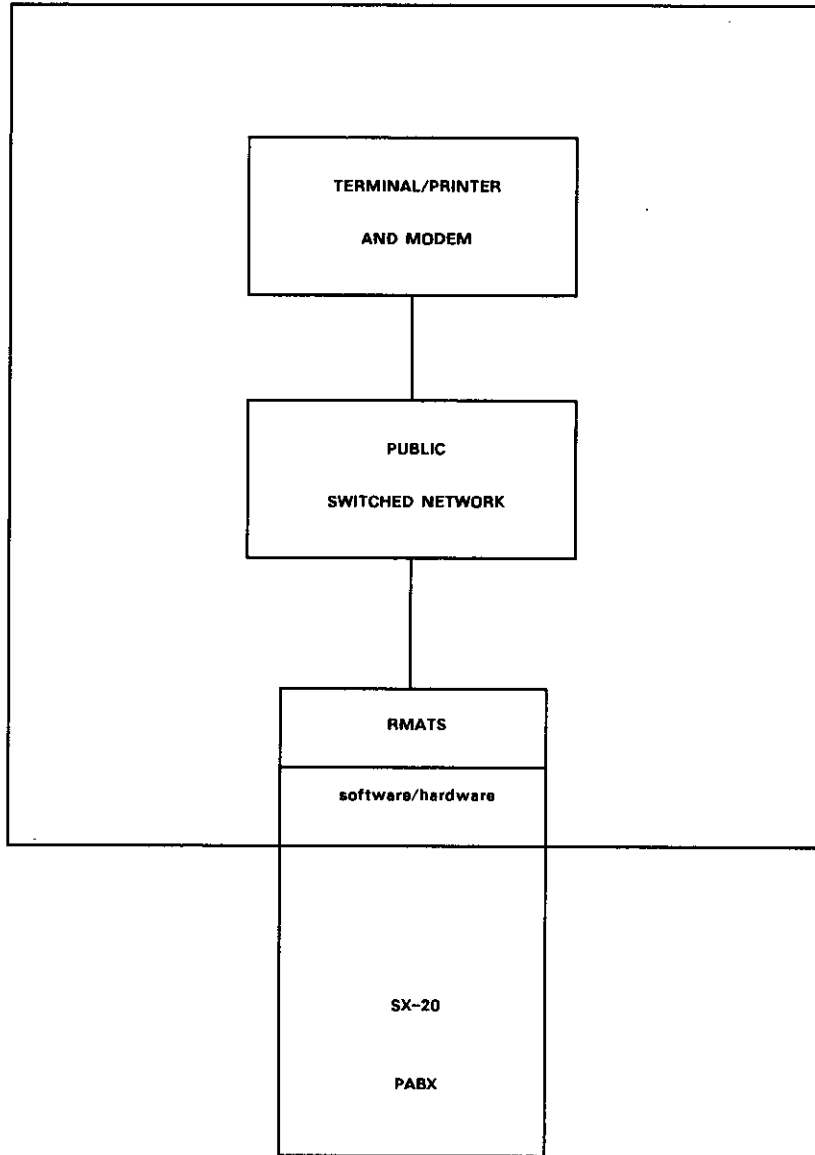

Figure 1-1 Block Diagram - RMA System
1.05 Figure 1-1 shows a block diagram of the typical arrangement of a RMA system. The RMATS controller may access any PABX which has been fitted with the RMATS software and hardware, by dialing the required PABX directory number, and performing one of the four system accessing methods detailed in Part 4. The controller may then access the required information. Once the PABX has been accessed, the RMA system can perform most of the functions normally active at the Attendant Console.